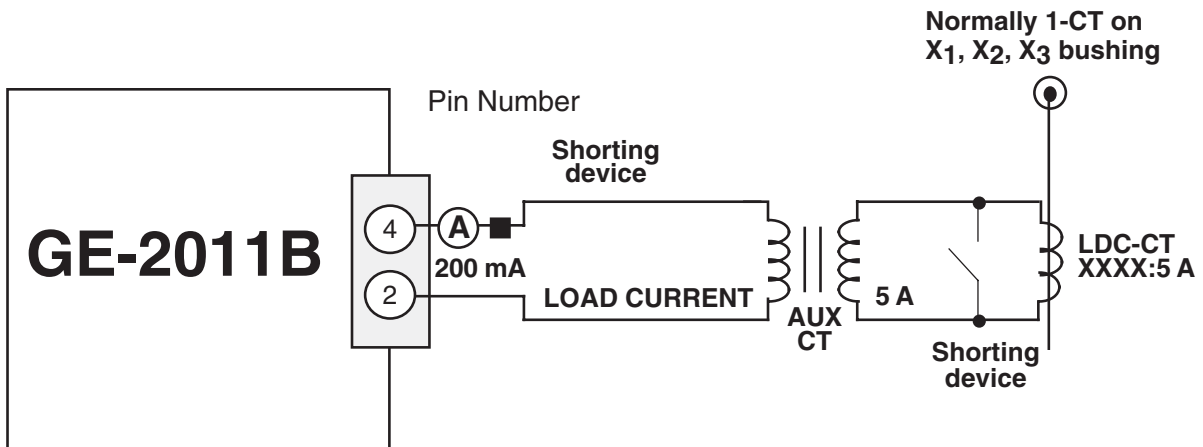

Figure 8-7 GE-2011B Setup for Current Checkout Procedure
1. Short the line drop compensator circuit by placing a shorting device of adequate capacity, across the LDC-CT secondary (See Figure 8-7).